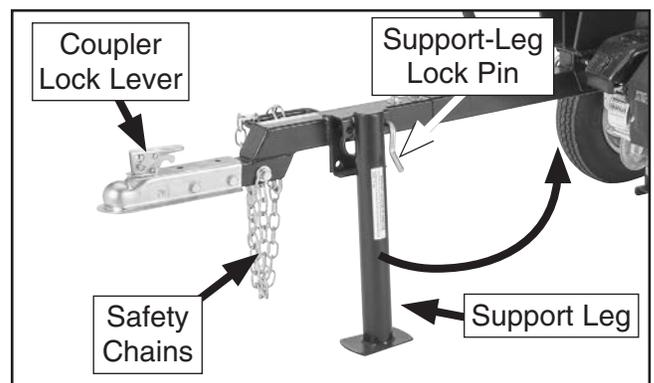

Figure 34. Raising support leg to towing position.
2. Raise and lock support leg in up position with support-leg lock pin (see **Figure 34**).
3. Raise coupler lock lever (see **Figure 34**) to unlatch it, and place coupler onto tow ball.
6. Secure safety chains (see **Figure 34**) to tow vehicle and double-check all your connections.